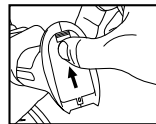

Fig.2.2
3. Replace Chamber Cap. (Fig. 2.2)